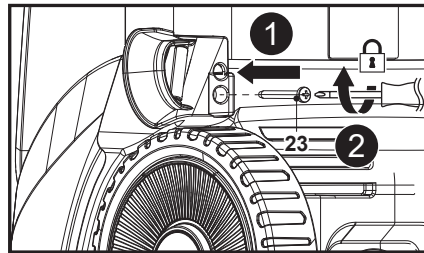

Fig. 2
Align the mounting hole on the hose guide (7) with its rest on the machine, then use a suitable cross-head screwdriver (not supplied) to secure the connection with the screw (ST4.8 x 16 with big screw head) (23) (Fig. 2, steps 1, 2).